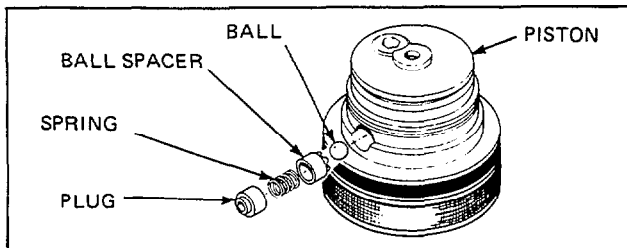

Figure 12. Sequence Valve Ball Assembly
- g. Assemble the sequence valve ball, ball spacer, spring, and plug in place onto the master plunger as shown in Figure 12. Then thread the piston onto the master plunger. As the piston is threaded on, the sequence valve plug will snap into one of the two holes in the plunger. With a